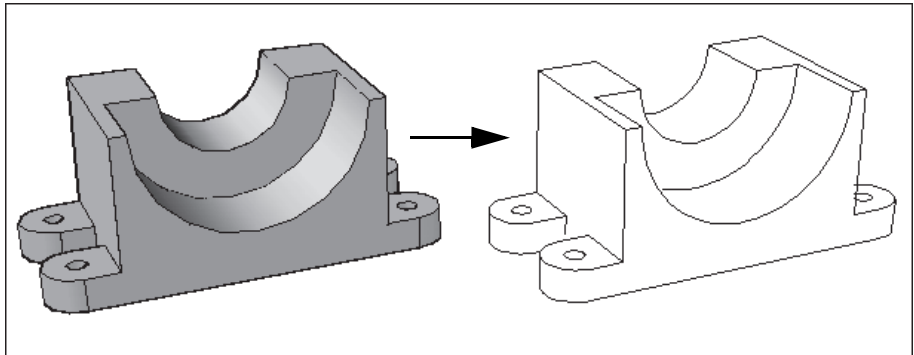

Figure 11–13
- **Solid Profile** does not create viewports. Instead, it creates anonymous blocks of the profile and hidden lines. The blocks are created on top of the original model and can be moved as required, as shown in Figure 11–13.